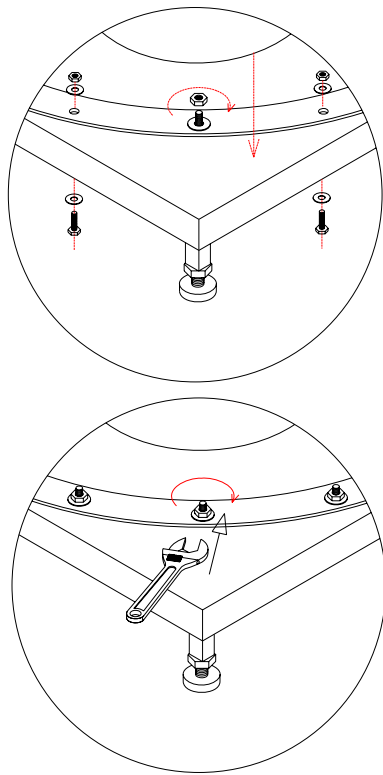

Fig 5
6. Move the tray out. Clean the surface of the tray threshold and apply a layer of silicone on to the edge; put the back panel onto the tray and fix them with M6×20 bolt sets (fig 5 & 6);